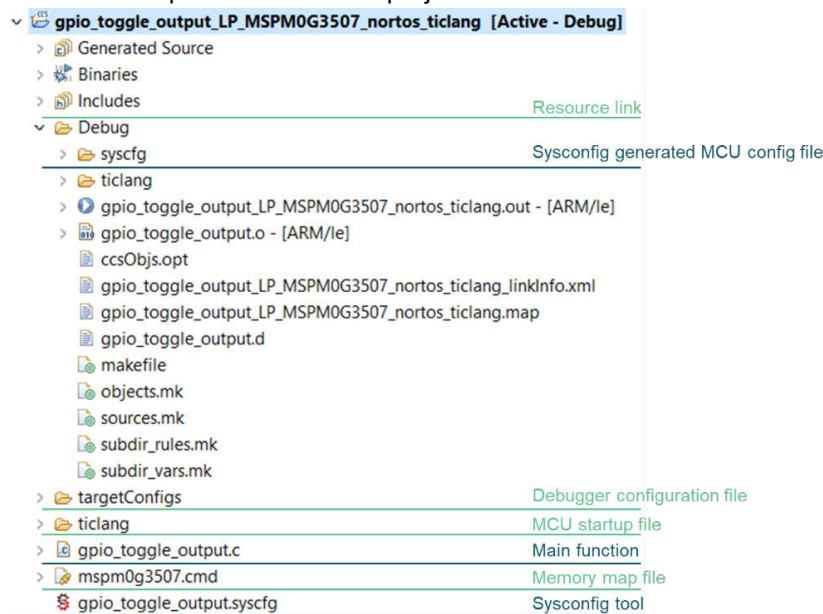

Figure 2-31. CCS Project Overview
- Figure 2-31 shows the most important files in the project.